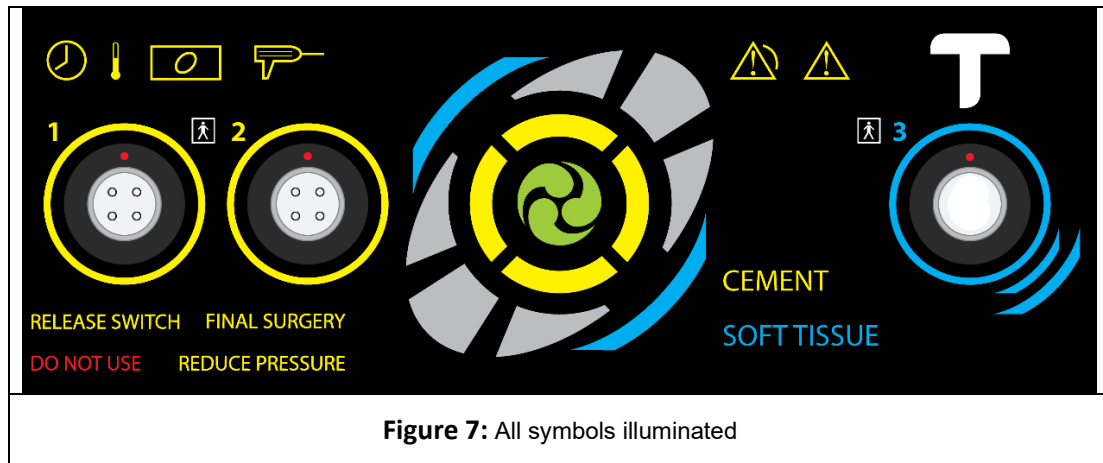

Figure 7: All symbols illuminated
- The Generator will now power up with an audio indicator flourish of tones, conduct a brief full screen illumination test as shown in Figure 7.